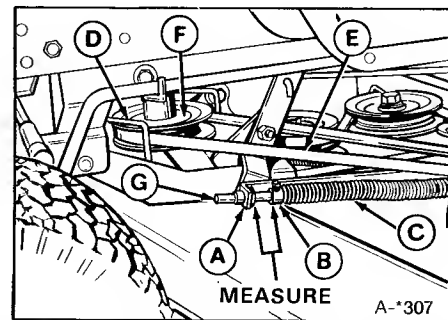

Figure 32. Mower Belt Adjustment
2. Measure the distance between the PTO rod guide (A, figure 32) and the set collar (B). For the 36" mower, the measurement should be $3/8$ to $1/2$ inch (10 to 13 mm). For the 42" & 48" mower, the measurement should be one inch (25.4 mm).
4. Loosen the setscrew in the set collar (B). Move the rod (G) forward to increase gap, or backward to decrease gap. Retighten the setscrew.
There are two belt stops at the PTO pulley; one on the left (D, figure 32) and one on the